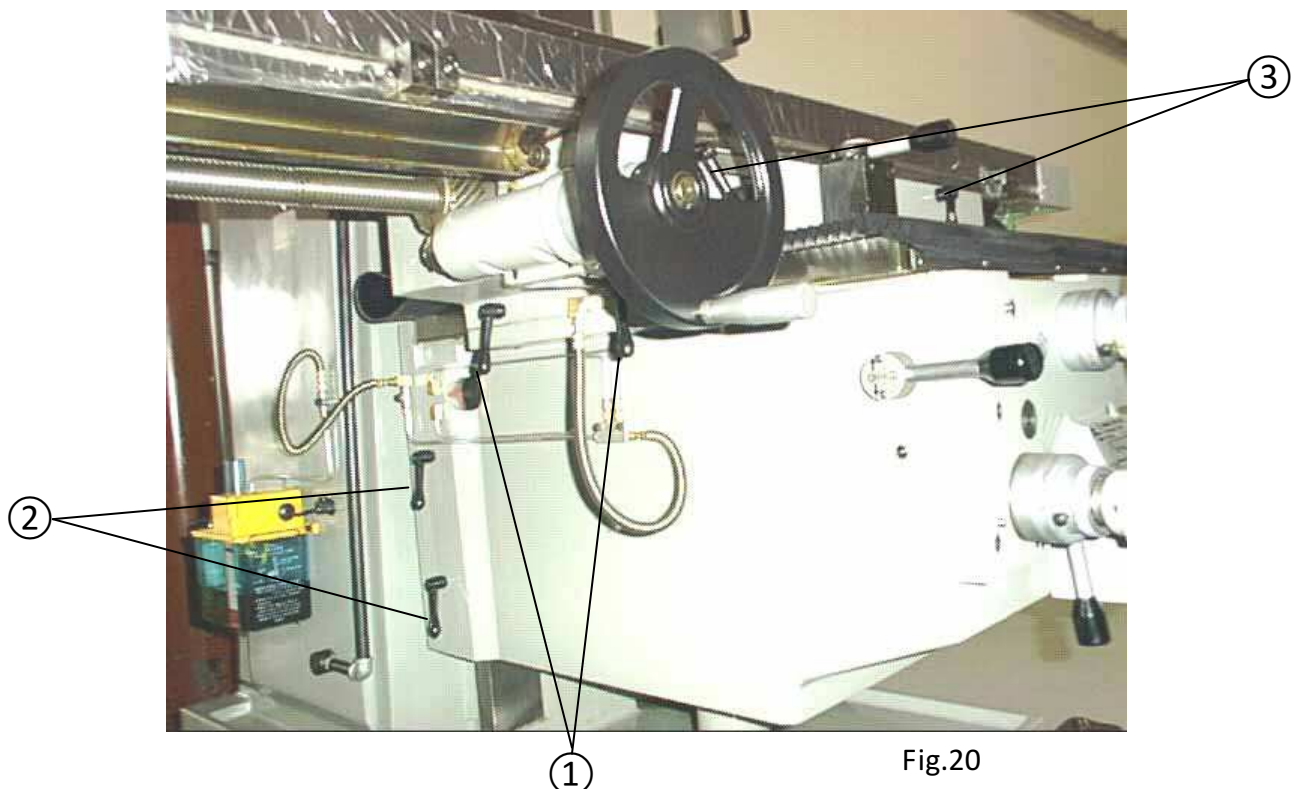

Fig.20
- (1) When longitudinal feed is not need, turn two clamp lever (Fig.20 (3)) clockwise at front of saddle to tighten the table.
- (2) When vertical feed is not in use, turn clamp lever (Fig.20 (2)) at rear of knee to tighten the knee.
- (3) When cross-feed is not in use, pull clamp lever (Fig.20 (1)) under the left side of the saddle toward operator to lock the saddle.